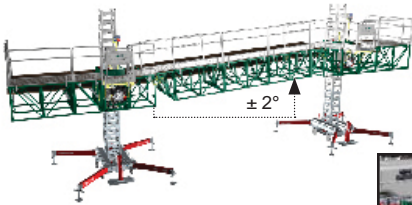

Fig. 2.1
- 1- When the motorized unit is in movement, if the inclinometer detects a slope of ± 2 degrees (fig. 2.1), the power supply of the solenoid valves is shut off. The motorized unit stops moving but the engine is still running.